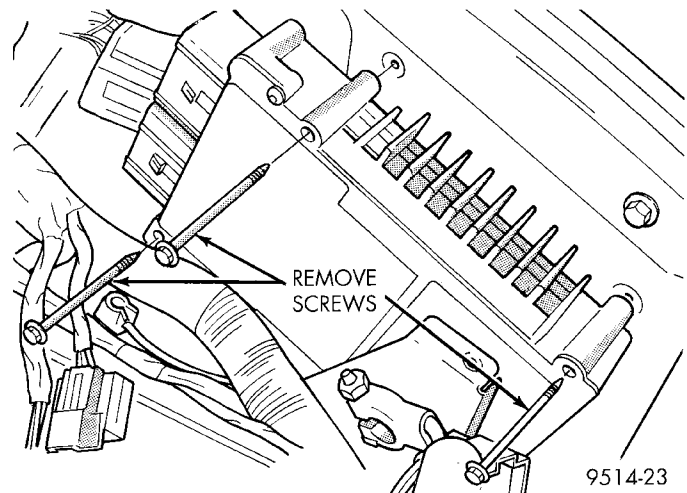

Fig. 36 PCM Removal/Installation
(9) Remove 3 screws holding PCM to fender (Fig. 36).
(10) Remove PCM from vehicle.